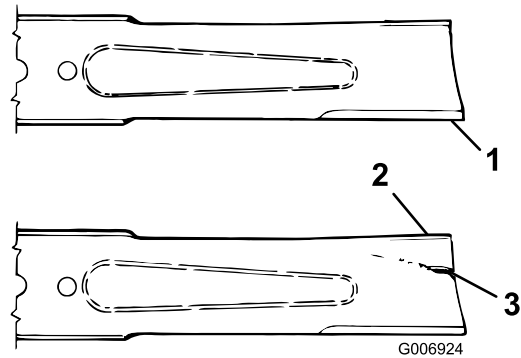

Figure 62
3. Examine the cutting ends of the blade carefully, especially where the flat and curved parts of the blade meet (Figure 62).
4. Since sand and abrasive material can wear away the metal that connects the flat and curved parts of the blade, check the blade before using the machine. If wear is noticed (Figure 62), replace the blade; refer to Removing the Cutter Blade (page 53).
If the blade is allowed to wear, a slot will form between the sail and flat part of the blade (Figure 62). Eventually a piece of the blade may break off and be thrown from under the housing, possibly resulting in serious injury to yourself or bystanders.